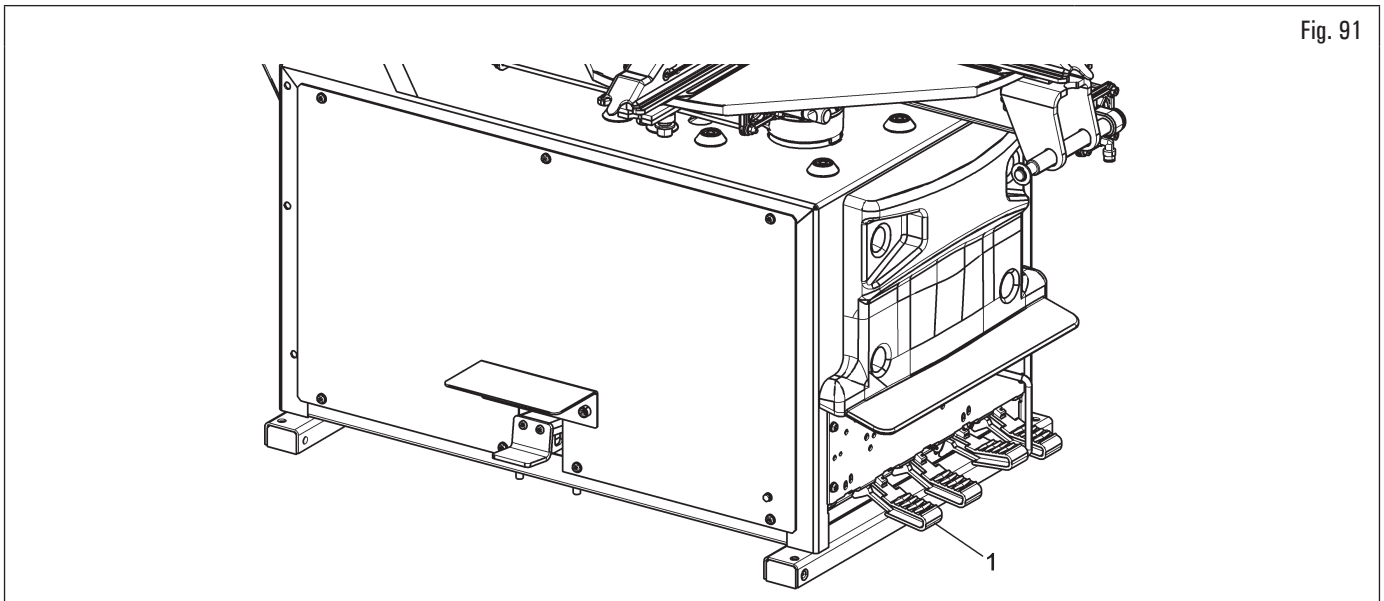

Fig. 91
4. set the work arm to work position depressing pedal (Fig. 91 ref. 1);